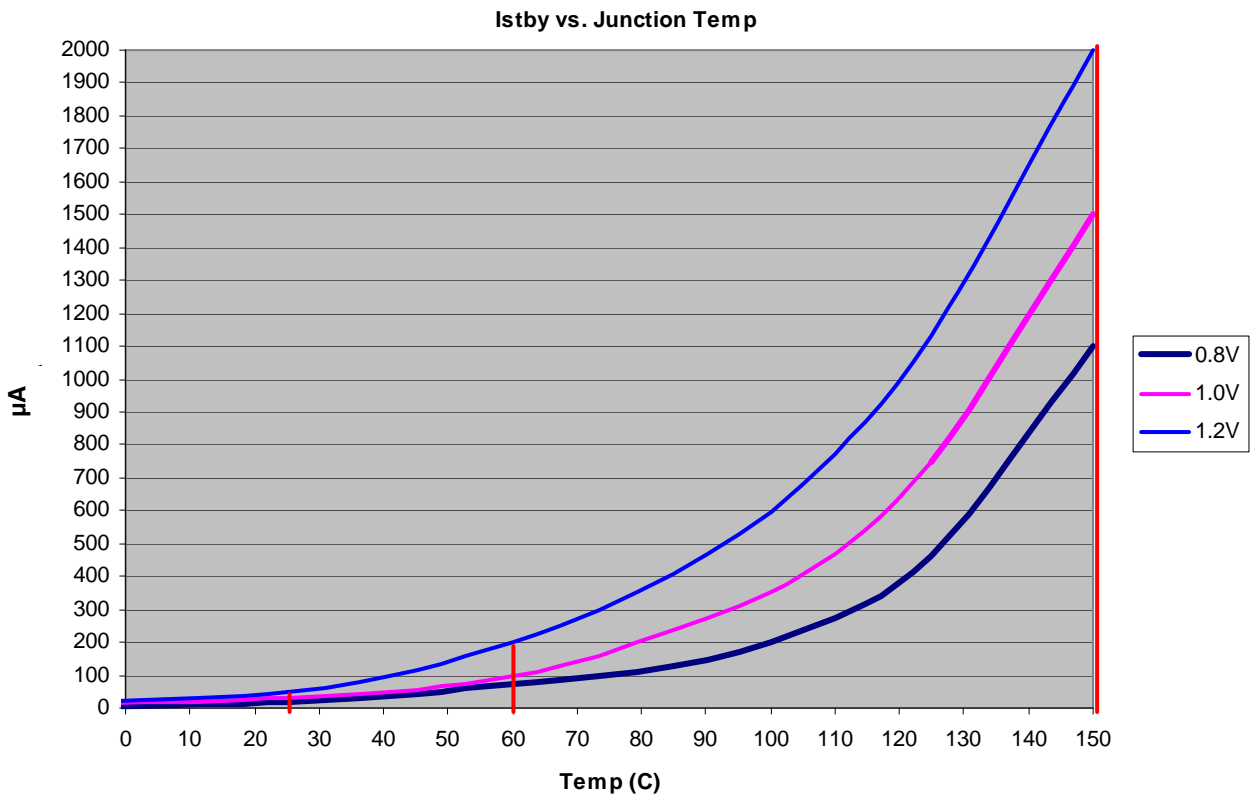

Figure 3.  $I_{STBY}$  Worst-case Specifications
27d	Refer to <a href="#">Figure 3</a> for an interpolation of this data. 18
7 Figure 3 shows an illustration of the  $I_{DD\_STBY}$  values interpolated for these temperature values.
- 14 Figure 3 shows an illustration of the  $I_{DD\_STBY}$  values interpolated for these temperature values.
- 18 Figure 3 shows an illustration of the  $I_{DD\_STBY}$  values interpolated for these temperature values.
Figure 3 shows an approximate interpolation of the  $I_{STBY}$  worst-case specification to estimate values at different voltages and temperatures. The vertical lines shown at 25 °C, 60 °C, and 150 °C in Figure 3 are the  $I_{DD\_STBY}$  specifications (27d) listed in Table 9.